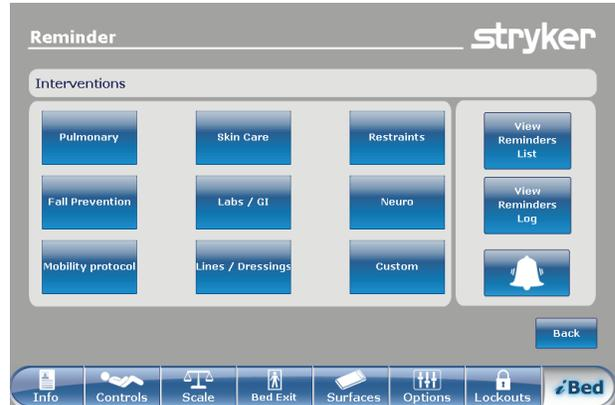

Figure 63: Reminder interventions
To return to the **iBed** main menu, tap **Back** (Figure 63 on page 79).
2. Tap the intervention group (Figure 63 on page 79).